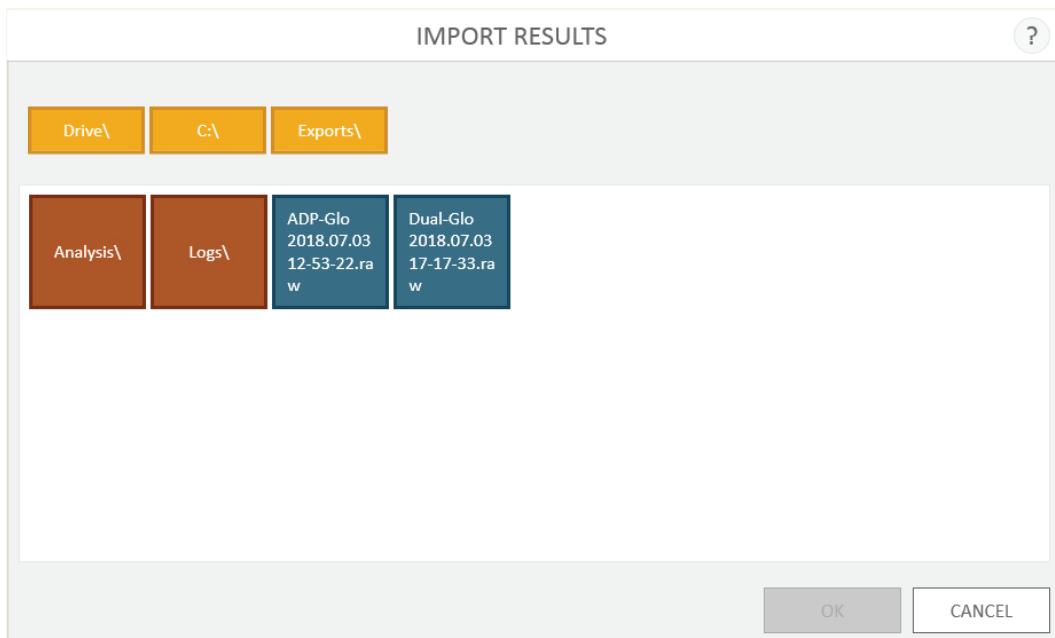

Figure 58. Importing Results, Templates or Analyses. Use the file browser screen to browse to the location of the desired import file.
- Touch the **Import** button near the bottom left side of the screen to open the 'Import Results', 'Import Templates' or 'Import Analyses' screen, depending on the current list being viewed (Figure 58).